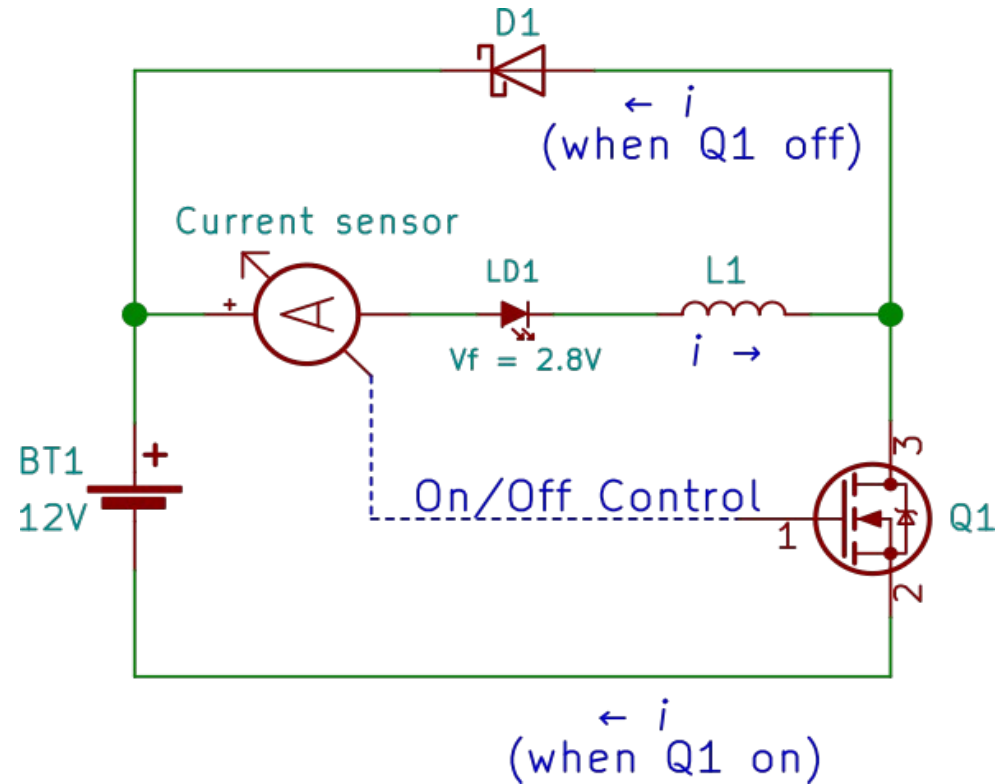
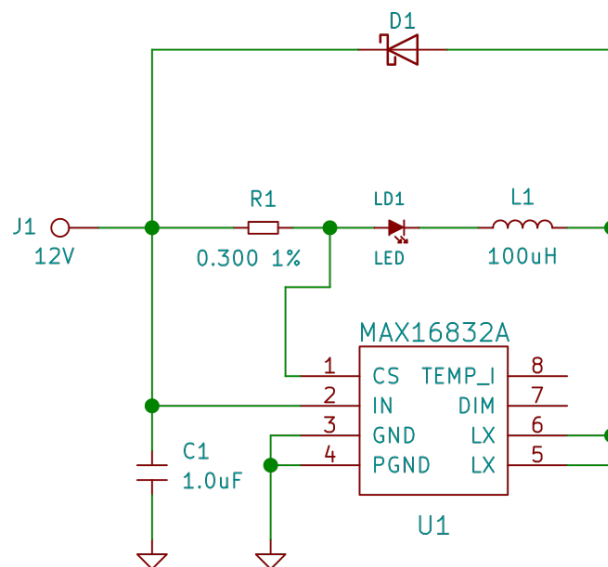
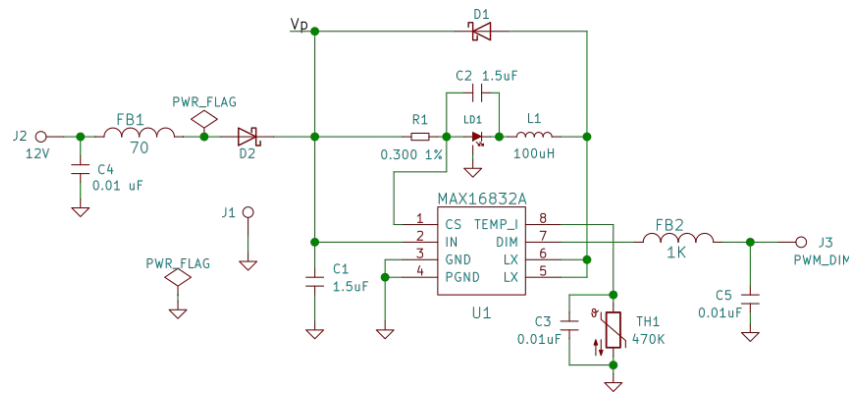

Fig 4
Fig 6
Fig 8
Figure 4 shows a simplified diagram of a transistor switching LED driver.
In practice, the current sensor in our example is generally a specialized Integrated Circuit (IC). For smaller drivers, this IC may also contain transistor Q1. Figure 6 shows an example using a MAX16832A buck-mode switching LED driver IC.
A quick inspection reveals that the circuit in Figure 6 is functionally identical to that in Figure 4. The current sensor has been replaced by resistor R1; transistor Q1 is now incorporated into integrated circuit U1; and a capacitor, C1, has been added. LED LD1, inductor L1, and diode D1 are identical, and the general layout remains the same.
Building on our MAX16832A example in Figure 6, Figure 8 shows an actual production version of a MAX16832A LED driver. The production version adds a PWM input for digital dimming, a temperature control thermistor, and low-pass filtering for EMI suppression.
Figure 8 adds a few new pieces to our LED driver. First let's deal with the superficial changes: The PWR_FLAG symbols are not real components; they are virtual components that tell the PCB design software that the attached networks are power networks. They are used by automatic design checking tools that help keep us from making mistakes. The ground on LD1 is for a thermal pad, soldered to the PCB board to conduct heat away from the LED. The thermal pad doesn't need to be grounded, but generally is to help suppress EMI.
Figure 8 adds a 1.5µF capacitor in parallel with LED LD1. Why? What does this do? It wasn't used on our previous circuits, so why add it now? An electrical engineer will tell you that the parallel capacitor reduces the effective impedance of the LED, but what does this really mean. To understand, we need to look at what the capacitor is doing.